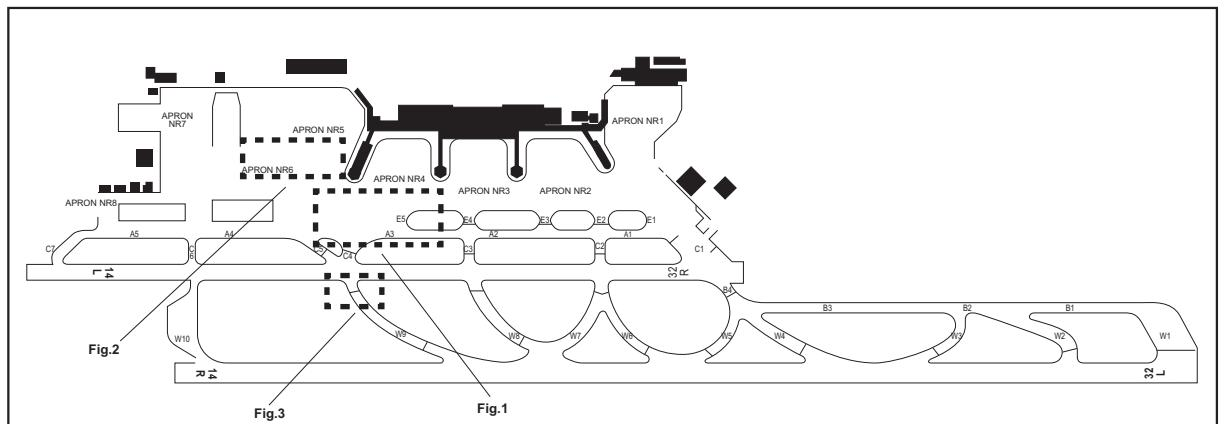
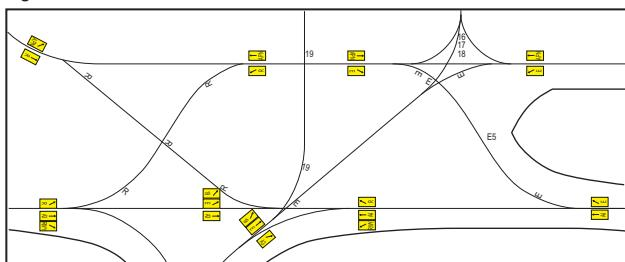
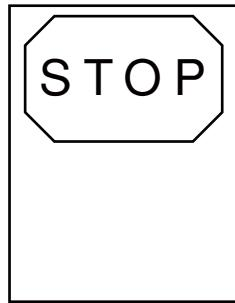

Fig.1
Fig.3
Fig.13
- (1) An operator on ground shall input the aircraft type into the system before the aircraft approaches the parking stand. Upon accepting the input, the system carries out internal calibration, starts the laser scanner simultaneously, and indicates the aircraft type according to the input. The system then will begin to indicate yellow lead-in arrows scrolling upwards prompting the aircraft to proceed. (Fig.1, Fig.2)
- (2) When the laser scanner detects the approaching aircraft, the display screen will indicate the aircraft type, a "T" bar, and a lead-in upward arrow in yellow.
- (3) At least until the approaching aircraft arrives at a point 15 meters before the stopping position, the system will identify the aircraft type and will compare with the previously input aircraft type. If these data match, the system will continue its operation. If they do not match, the display screen will indicate "STOP" with a red border, and "ID FAIL" simultaneously. (Fig.3)
- (2) When the aircraft reaches the stopping position, a message "STOP" will be displayed on the screen with a red border. (Fig.13)
- (1) When the system displays an incorrect aircraft type, or when such a message as "STOP", "ID FAIL", or "WAIT" appears on the display screen, the pilots should stop the aircraft immediately. (Fig.3, Fig.13, Fig.17)